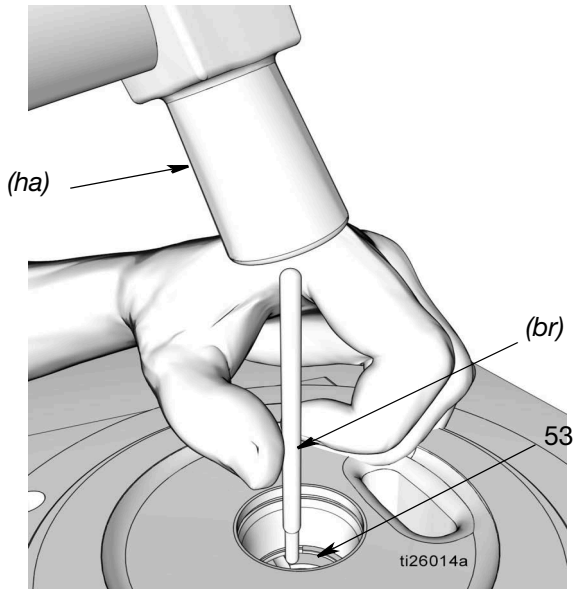

**FIG. 25**
- a. Use the blade of a small, flat screw driver under the tapered edge (*te*) of retaining ring (9) to remove the ring as shown in FIG. 25.
- b. Remove the tapered spacer (10), seal (11), and spacer (12).
- c. Use the blade of a small, flat screw driver under the tapered edge (*fe*) of retaining ring (51) to remove the ring as shown in FIG. 25 and remove the retaining ring.
**DO NOT REMOVE THE LAST RETAINING RING (51).**
- d. Remove spacer (12), seal (11), and spacer (12).